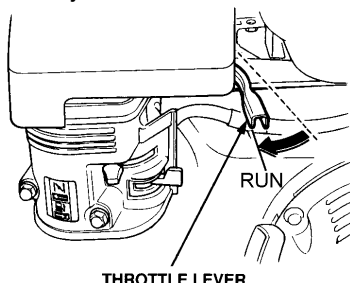

Figure 14. Throttle Lever (Run)
1. Move the throttle lever to the **IDLE** position (See Figure 14) and run the engine for three minutes at low speed.